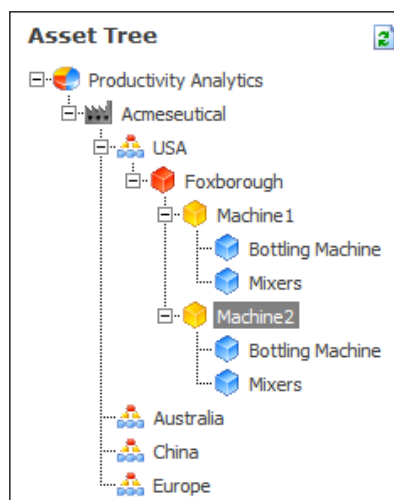

Figure L4.5 - Asset Tree
26. Your finished asset tree should look similar to Figure L4.5.